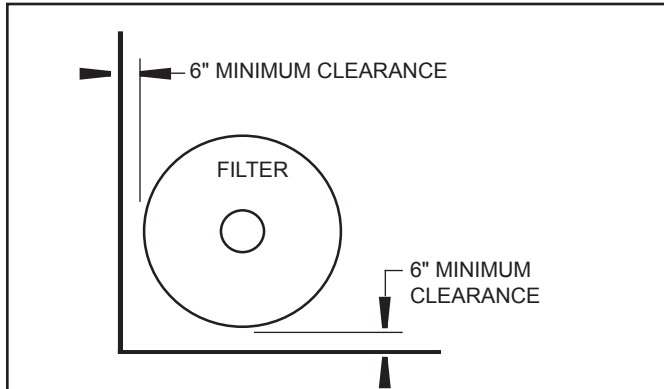

Figure 2. Filter Location
4. Allow sufficient clearance around the filter. See Figure 2.